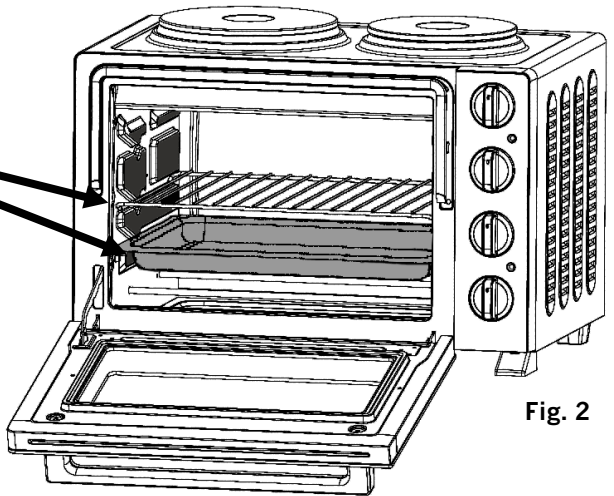

Fig. 2
- Where to fit the baking tray and rack – see fig 2
- Slide the grill rack and / or baking tray onto the rack supports (fig. 2)
- If placing food directly onto the grill rack, fit the baking tray into the lower oven rack rest to act as a drip / crumb tray (fig 2 & 11).